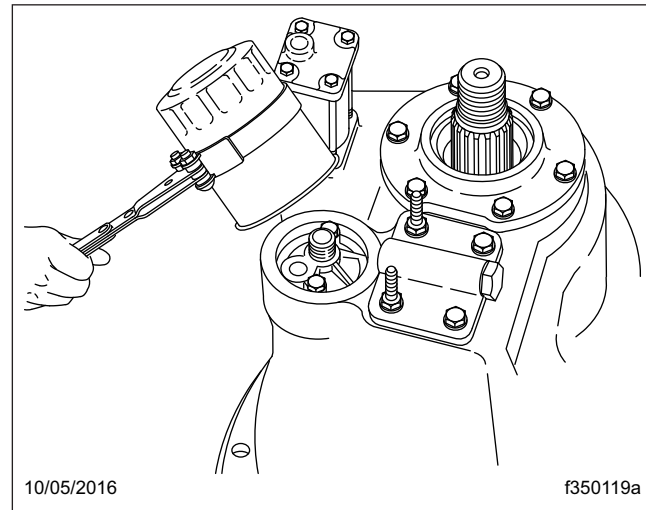

Fig. 5, Meritor Axle Oil Filter Removal
3. If equipped with an oil pump, use a suitable filter strap wrench to remove the axle oil filter. See Fig. 5. Discard the old filter.